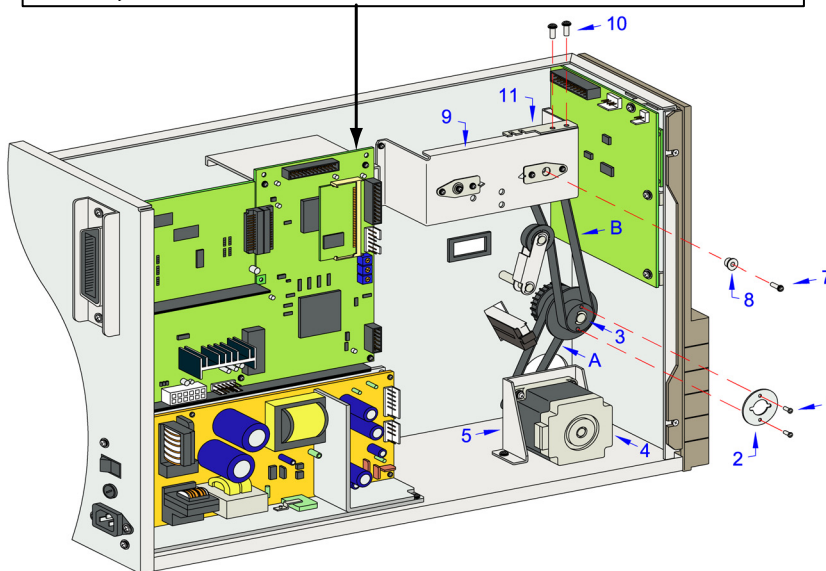

Figure 7-3, Timing Belt Replacement
3. Remove two screws (1, Figure 7-3) securing plate (2) to pulley (3). Lift away plate (3).
4. Withdraw timing belt (A) from pulley (3).
5. Perform steps 6 through 9 to replace timing belt (A). Proceed to step 10 if only replacing timing belt (B).
6. Loosen four screws (not referenced) securing drive motor (4) to motor bracket (5).
7. Withdraw belt guide (6) and worn timing belt (A) from pulley (3), drive motor (4).
8. Apply replacement timing belt (A) to drive motor (4) and pulley (3) followed by belt guide (6).
9. Retighten four screws (not referenced) to secure motor (4) to motor bracket (5).
10. Remove screw (7) and bearing (8) from ribbon spindle bracket (9), then two screws (10) from plate (11).
11. Withdraw the ribbon spindle (not shown) to work worn timing belt (B) from the printer and out plate (11).
12. Apply replacement belt (B) over plate (11), then onto its upper and lower pulleys.